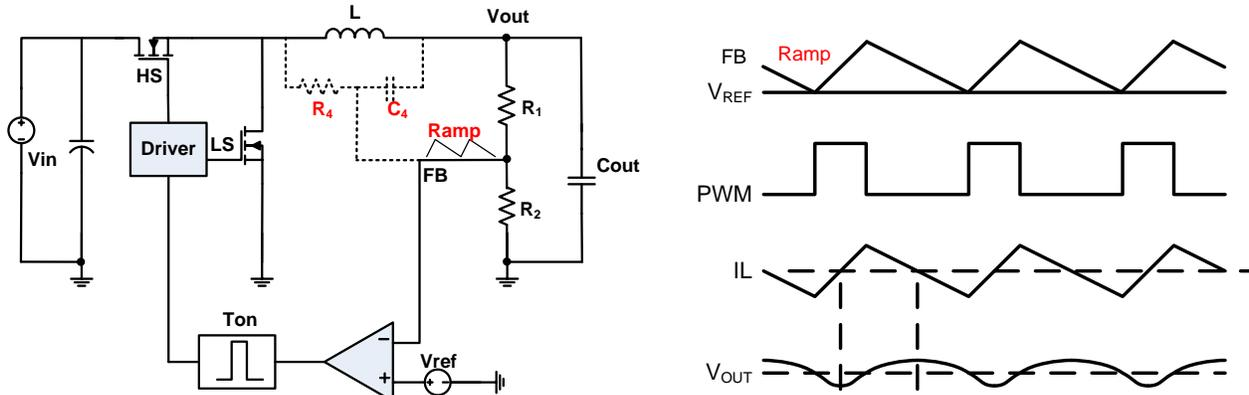

Figure 3: Circuit Diagram of COT Control and Operational Signal Diagram
The MP5416 adopts a constant-on-time (COT) control scheme to achieve reduced output overshoot and undershoot during load transient. The COT buck circuit diagram is shown in Figure 3. The feedback (FB) reference voltage (V_{REF}) is compared against $FB + V_{RAMP}$. The regulator turns on for a period (T_{ON}) when $FB + V_{RAMP} < V_{REF}$. V_{RAMP} is proportional to the output voltage, as shown in Equation (1):
Where t_{sw} is the switching period, D is the duty cycle period, and R4 and C4 refer to components in Figure 3.